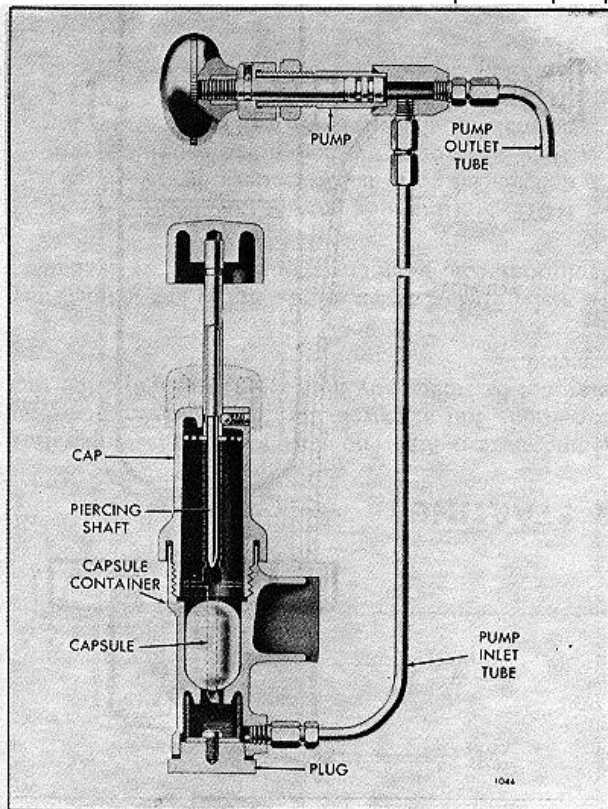

FIG. 2 Fluid Starting Aid
1. Refer to Fig. 2 and remove the cap from the capsule container. Insert a fluid capsule in the container.
The principal parts of the starting aid pump are the body, plunger and the spring-loaded ball type inlet and outlet check valves (Fig. 2). The pump body is threaded externally at one end for mounting purposes. One end of the plunger is threaded into the operating knob. Two seal rings of oil resistant material are located in grooves at the other end of the plunger. The inlet check valve, which opens on the suction stroke of the plunger and seats under pressure, is located in the side opening of the pump body. The outlet check valve, which seats under suction and opens under pressure, is installed in the end opening of the pump body. The check valves are identified by the number "1/2" stamped on the inlet valve and the number "30" on the outlet valve. An arrow indicating the direction of flow is also stamped on each check valve.